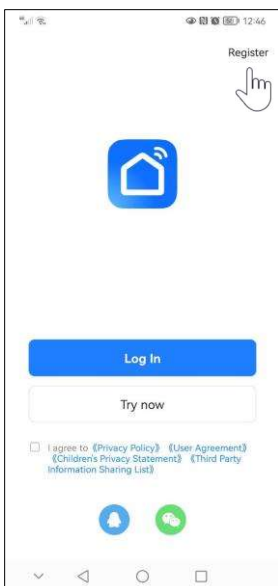
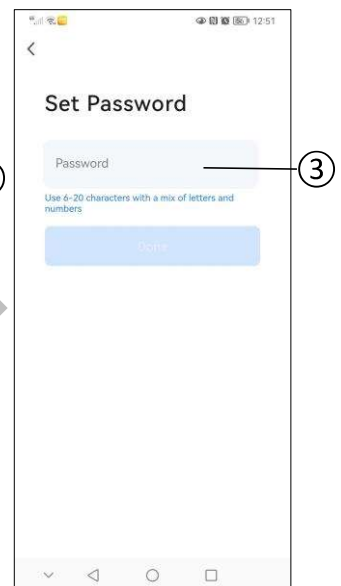

Fig.1 Home page
Fig.4 Set password
1. To use the App for the first time, you should register via email or mobile phone number firstly just as follows. (Fig.1~Fig.4)